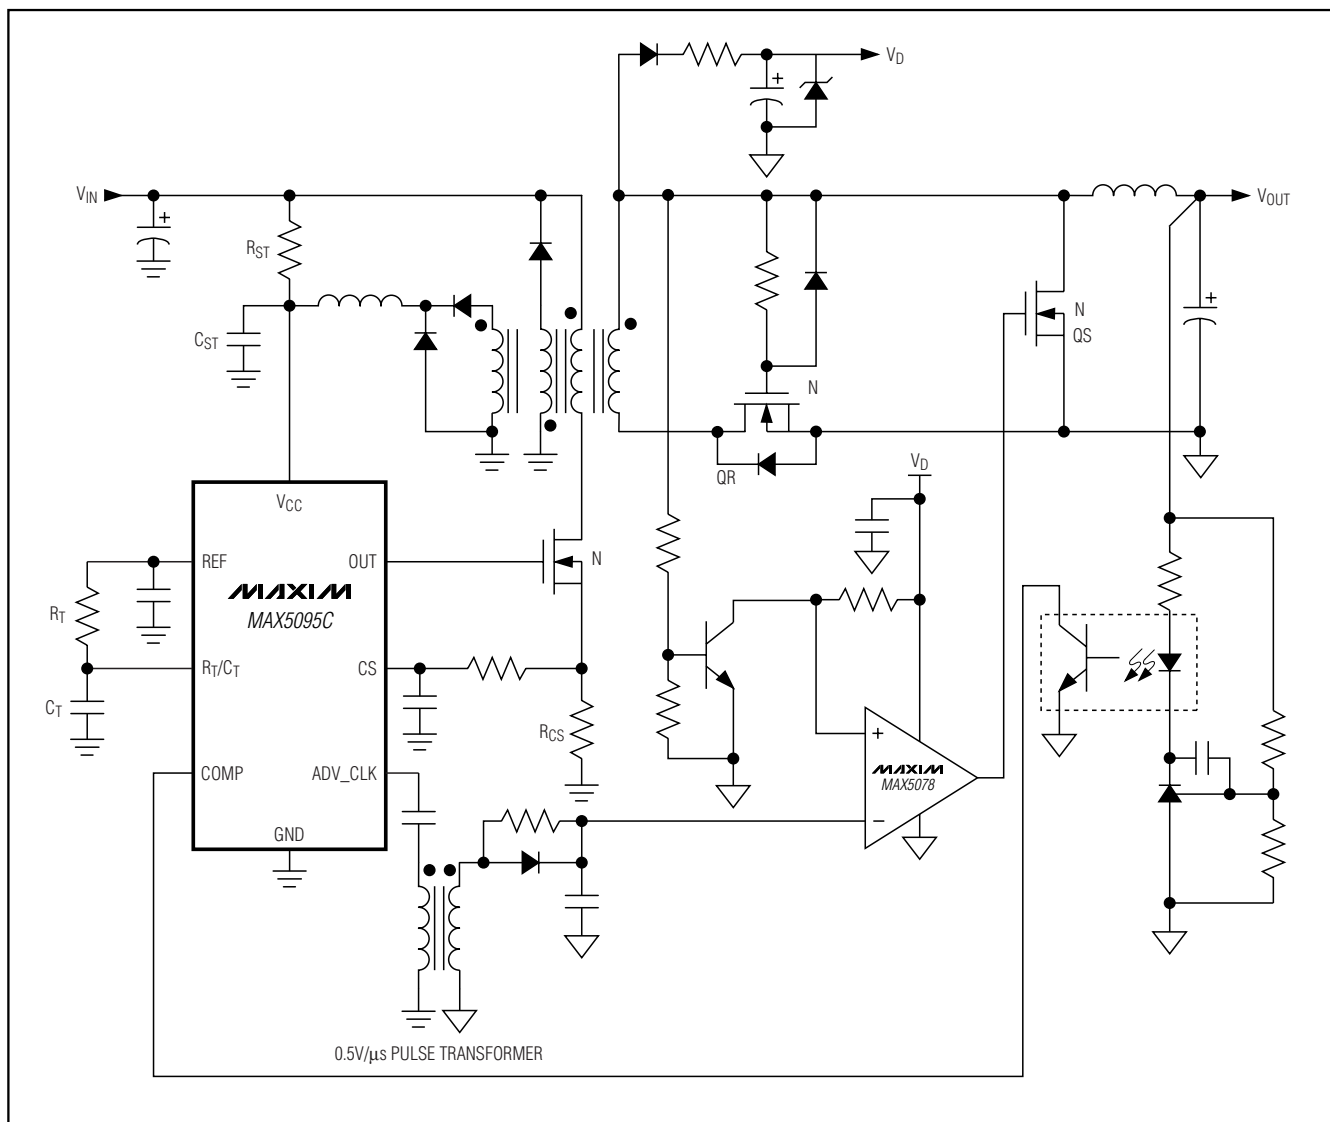

Figure 8. MAX5095C Typical Application Circuit (Isolated Forward with Secondary-Side Synchronous Rectification)
ADV\_CLK is an advanced pulse output provided to facilitate the easy implementation of secondary-side synchronous rectification using the MAX5095C. The ADV\_CLK pulse width is 85ns (typically) with its rising edge leading the rising edge of OUT by 110ns. Use this leading pulse to turn off the secondary-side synchronous-rectifier MOSFET (QS) before the voltage appears on the secondary (see Figure 8). Turning off the secondary-side synchronous MOSFET earlier avoids the shorting of the secondary in the forward converter. The ADV\_CLK pulse can be propagated to the secondary side using a pulse transformer or high-speed optocoupler. The 85ns pulse, with 3V drive voltage (10mA source), significantly reduces the volt-second requirement of the pulse transformer and the advanced pulse alleviates the need for a high-speed optocoupler.